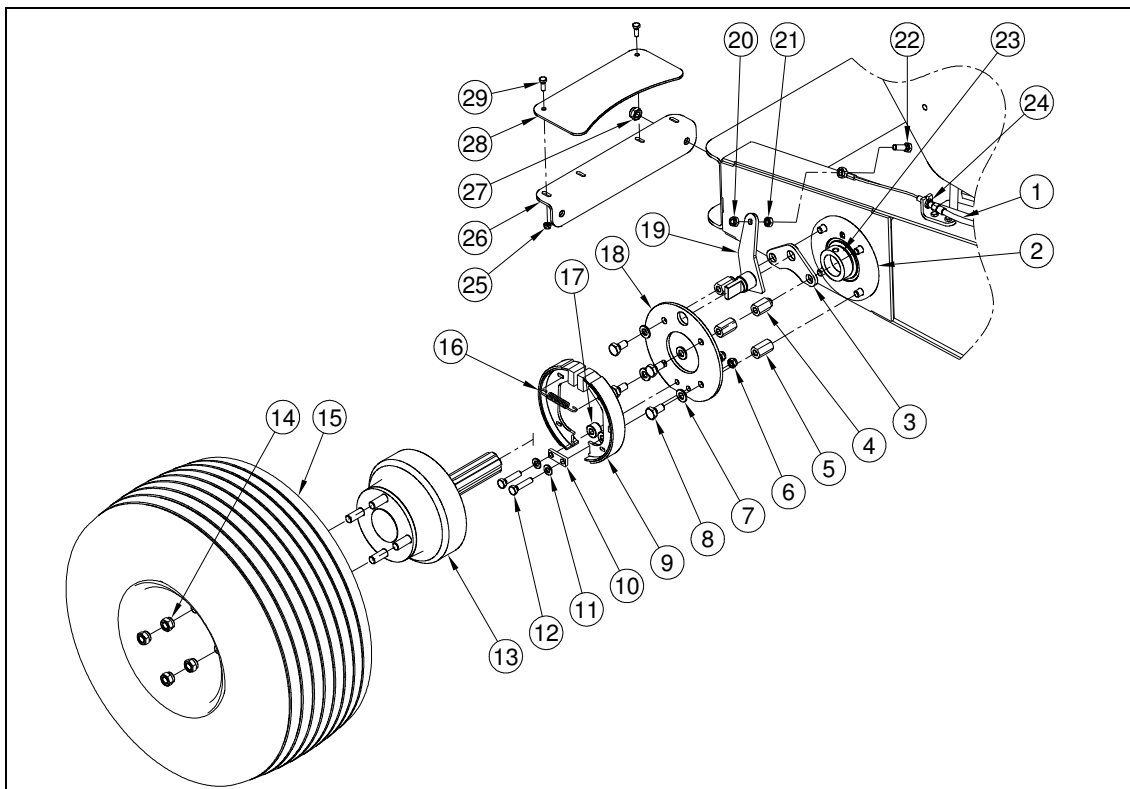

Fig. 10
2. Mount the two back wheels, the two brake designs and the two scrapers that have been supplied separately. Mount the brakes and back wheels as follows: (see fig.10)